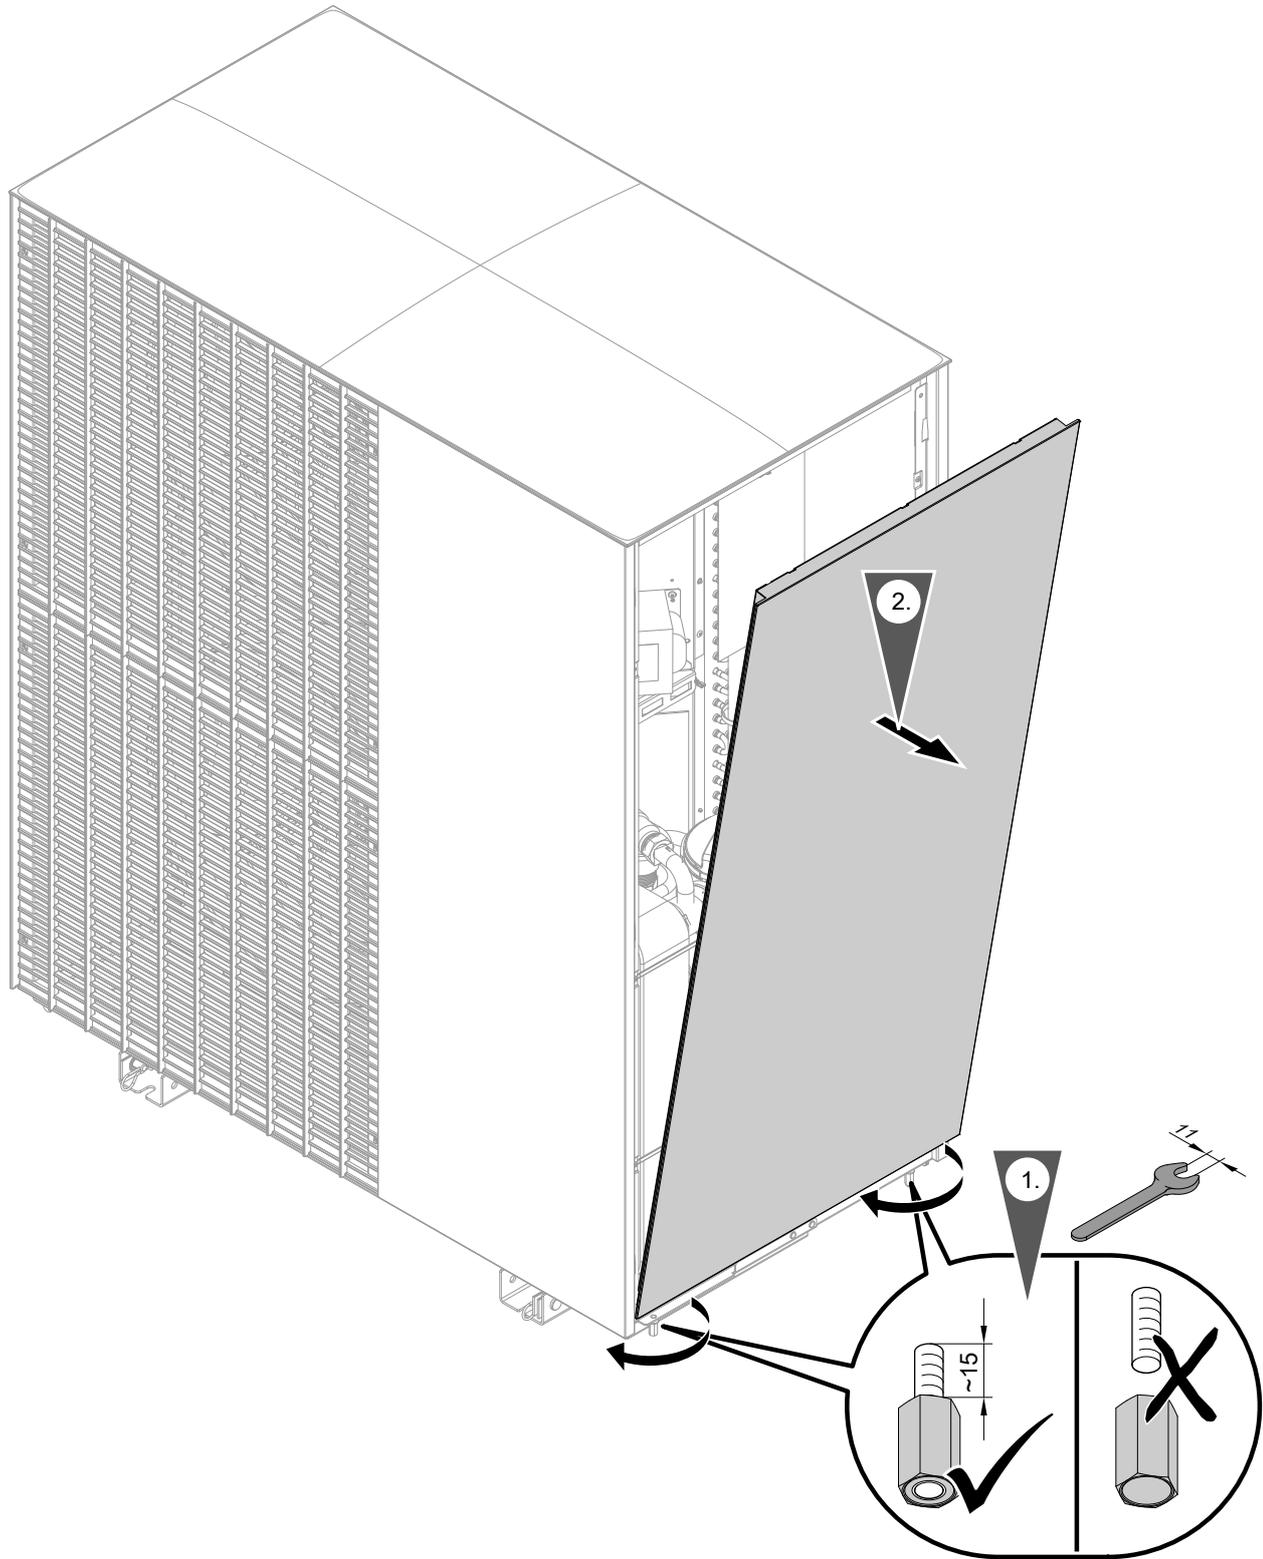

Fig. 95
1. Remove side casing, right: See Fig. 95.
- (B) Lower fan grille
3. Remove side casing, right: See Fig. 95.